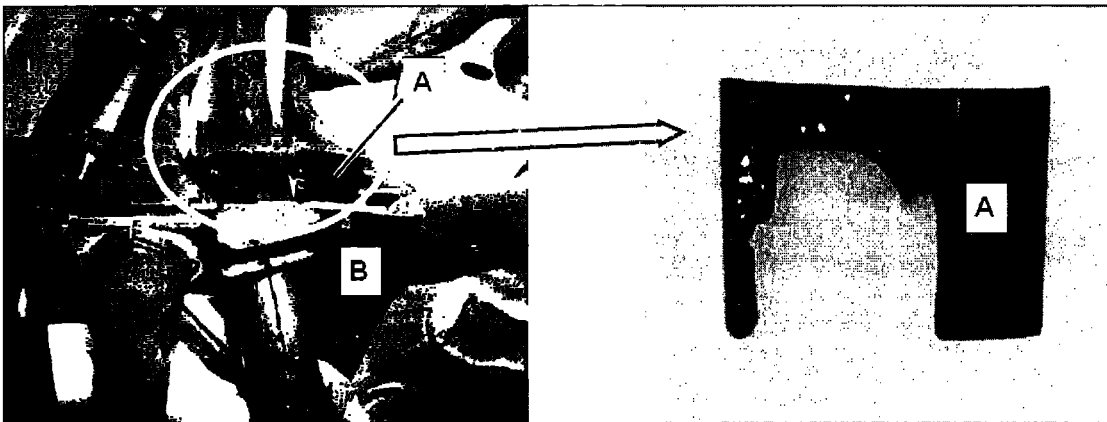

Figure 16
- Insert new routing clip (A, Figure 16) into wire guide (B) until top of clip (A) is flush with top of wire harness guide (B).